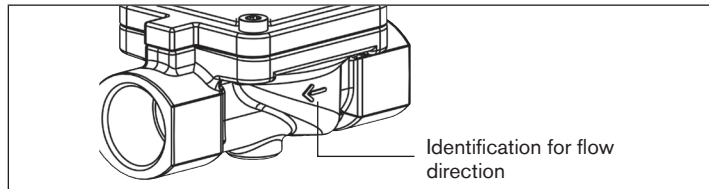

Fig. 3: Identification of flow direction
- Observe direction of flow (see “Fig. 3”).